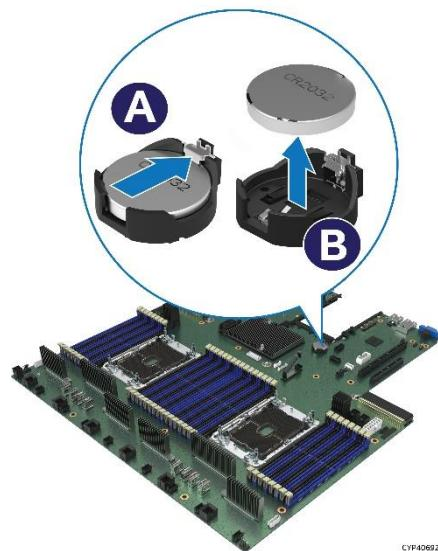

Figure 192. Replacing the System Battery
4. Locate the battery on the server board (see Figure 192).